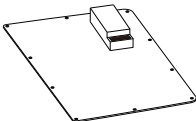

Figure 31
Step 3: Consider the picture, parameter setting by DIP Switch:1,2 set sensitivity;3,4 set hold time; 5,6 set the lux;7,8 set stand-by light level;9,10 set stand-by time. (Figure 31)